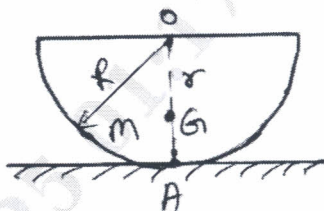

Fig.Q.4(b)
- b. Find the natural frequency of vibration of the half solid cylinder shown in Fig.Q.4(b), when slightly displaced from the equilibrium position and released by using i) Newton's method ii) Energy method. (10 Marks)